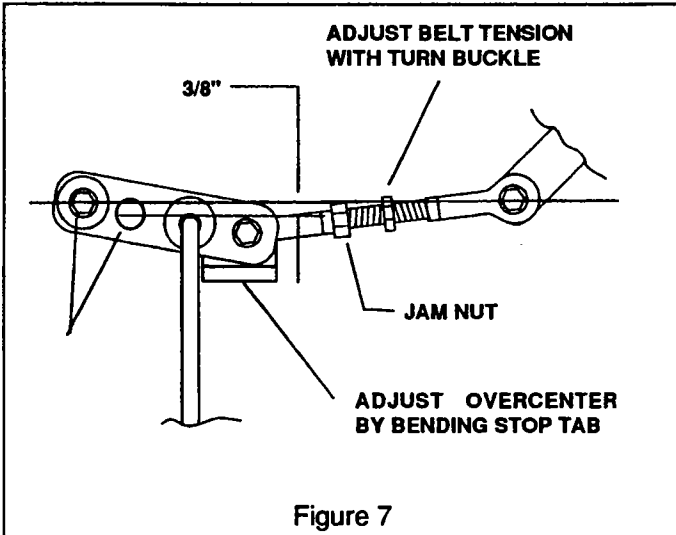
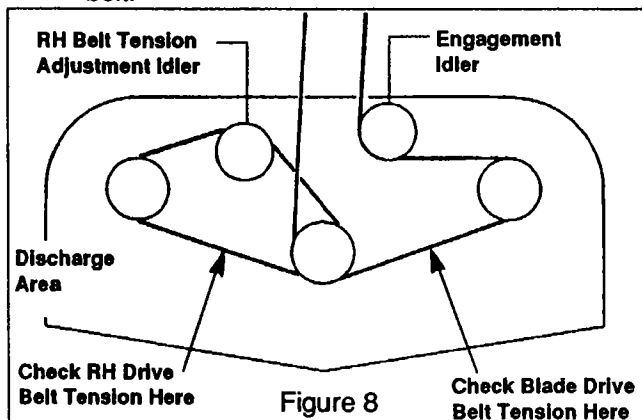

Figure 7
Figure 8
1. Engage blade clutch lever and check for proper over center clearance. There should be about 3/8" between rod and straight edge (see figure 7). Bend the stop tab to adjust clearance.
2. Adjust belt tension so that the belt moves 1/2" with 10 lbs. of pressure applied between the center and left spindle pulleys (see figure 8). Adjustment is made by loosening the jam nut and tightening/loosening the turnbuckle (see figure 7). Belt driving right spindle should be checked the same way. Adjust with J-rod on RH belt tension adjustment idler.